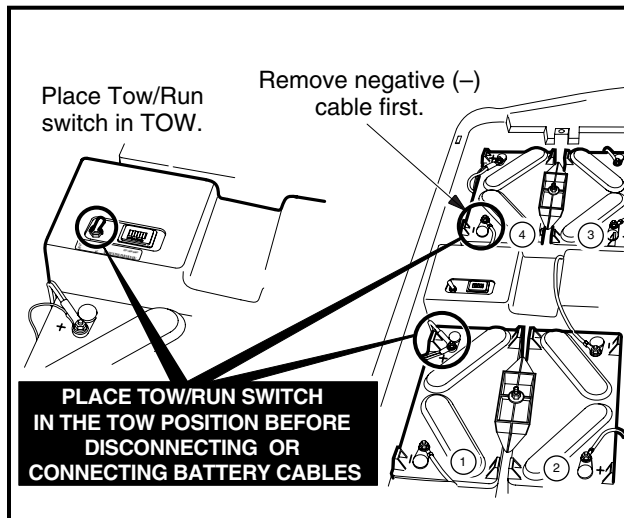

Figure 1 Battery Cable Removal – Electric
- To avoid unintentionally starting the vehicle, disconnect the batteries as shown (Figure 1, Page 13).